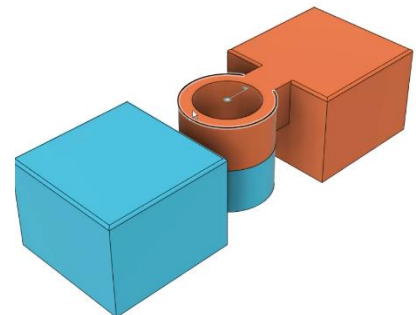

Figure 5. Apply As-built Revolute joint
5. Select Assemble > As-built Joint. Select the two components shown and set the Type to Revolute. Set the Snap point to be the center of the boss for the two blocks as shown in Figure 5.